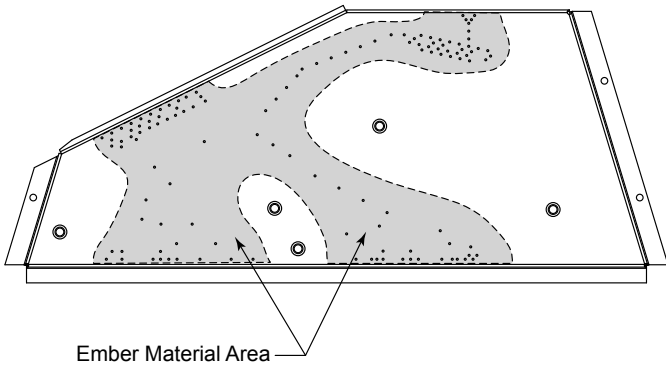

Figure 21 -
1. Break up rock wool (ember material) into small fluffy pieces. Place evenly as shown. Do not exceed 1" layer covering all round burner ports. Refer to Figures 21 and 22.